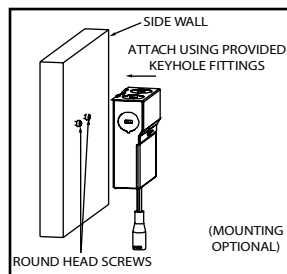

Figure 5 / Figura 5 / Schéma 5
■ **MUST follow local electric code** for rigid attachment and placement of the remote driver box. (Figure 5)